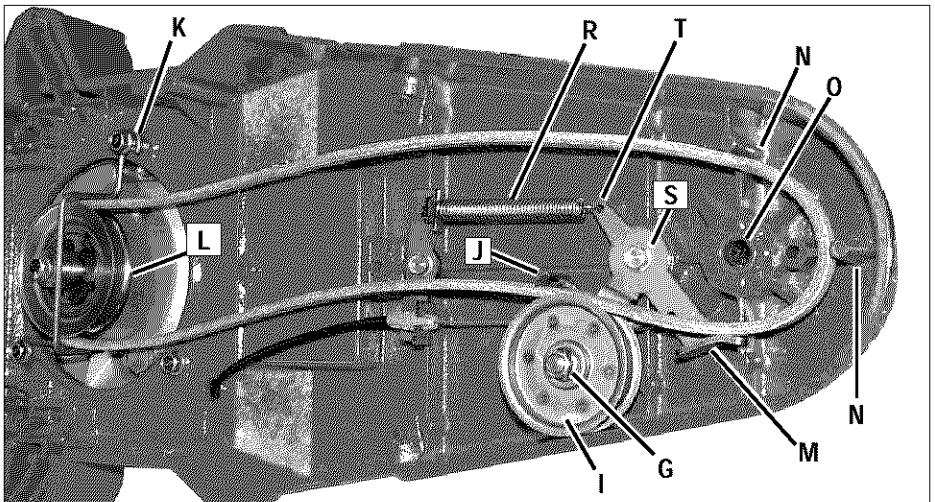
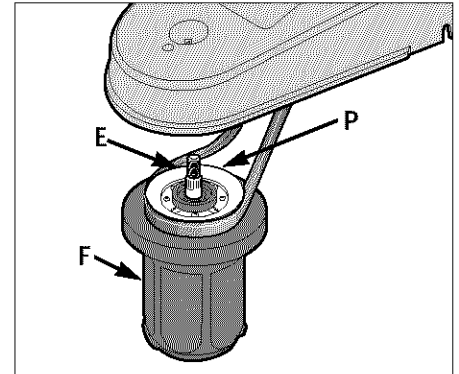

Figure 5-6
Figure 5-5
8. Remove the nut from the spindle shaft and then remove the spindle shaft (E, Figure 5-5) and entire spindle head assembly (F) from the bottom of the deck. Slip the belt off the spindle head pulley (P).
9. Disconnect the idler arm spring (R, Figure 5-6) from the hole in the idler arm (T).
10. Using a 1/2" wrench, loosen the idler arm mounting screw (S, Figure 5-6) two full turns.
11. Using a 9/16" wrench and a 7/32" hex (Allen) wrench, loosen the mounting nut (G, Figure 5-6) and screw on the idler pulley (I) a few turns, or until belt is free to slip out between pulley and belt guide (J). Remove belt.
12. Loosen rear belt guide screw (K, Figure 5-6) enough to allow belt to be removed from engine pulley (L). Remove belt from unit.
1. Install belt on engine pulley (L, Figure 5-6) and retighten rear belt guide screw (K) securely.
2. Route belt between idler pulley (I, Figure 5-6) and belt guide (J), to inside of brake arm (M), and next to die-cast belt guides (N).
3. Securely tighten the mounting nut (G, Figure 5-6) and screw in the idler pulley (I).
4. Securely tighten the idler arm mounting screw (S, Figure 5-6). After tightening, check that idler arm is free to rotate. If not, remove idler arm and check for debris that may be interfering with freedom of movement.
5. Look at the spindle head mounting hole (O, Figure 5-6) and note the grooves that are cut into the inner sides of the hole. These grooves were formed by the splines on the spindle shaft (E, Figure 5-5).
6. Install the belt on the spindle head pulley (P, Figure 5-5) and insert the spindle shaft (E) (with attached spindle head assembly) into the spindle head mounting hole (O, Figure 5-6). Rotate the spindle head assembly to align the splines on the spindle shaft with the grooves in the mounting hole. Check that the belt is still in the pulley groove and is to the inside of the die-cast belt guides (N, Figure 5-6).
10. Reattach the idler arm spring (R, Figure 5-6) in the hole in the idler arm (T).